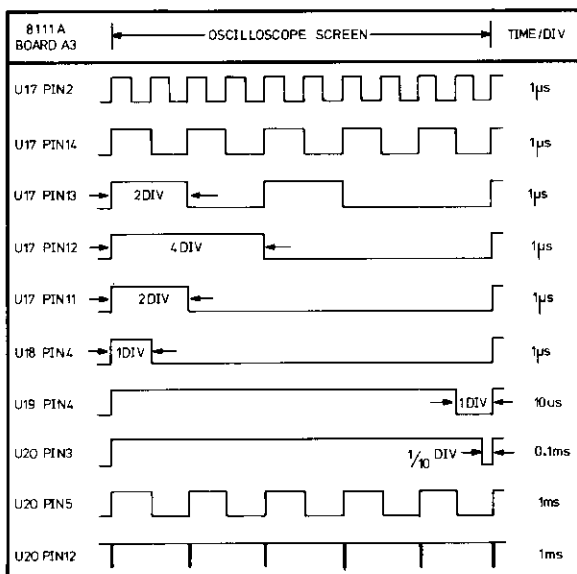

Figure 8-6-4. A3 Troubleshooting Data
The correct operation of the Burst Counter can be verified with the following test procedure, refer to Figure 8-6-4 for the waveform and timing data.
3. Confirm that the waveforms and timing data as given in Figure 8-6-4 are correct. Use oscilloscope internal trigger on positive slope setting.